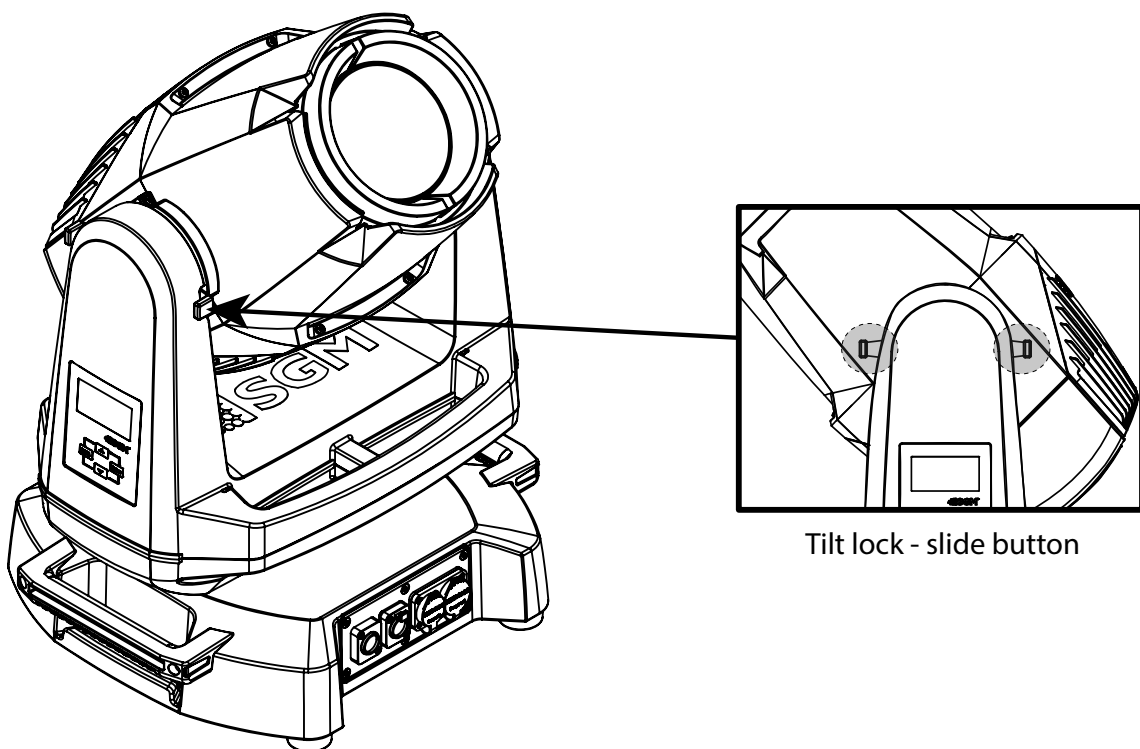

Figure 3: G-7 Spot Tilt Lock
6. Check if the tilt lock is released. If not, push the slide button shown in the figure 3 to the right to release the tilt lock.